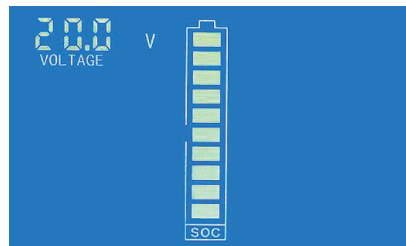
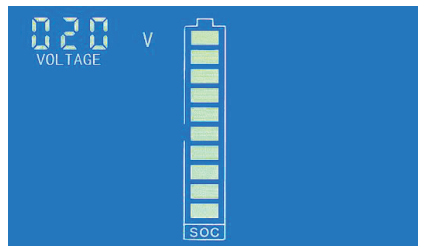

Figure 3: full voltage setting interface (low bit)
Figure 4: full voltage setting interface (high bit)
- Step 2: "SET" character blinks enabling it is the setting status of full / cut off voltage, long press the button until the LCD screen display the interface like fig. 3, then release the button.
- Step 3: The battery symbol display is full. The full voltage setting factory default is 020.0V, the numerical code scrolls flashing from the low bit to the high bit show that the current setting digit, short press to set the digit; please pay attention this, as the full voltage setting value has 4 digit, but the numerical code has only 3 digit, So the setting is divided into two part s: low bit (fig. 3) +high bit (fig. 4). For example, the default full voltage is 020.0V, then the display state is 20.0V to 020V low and high cyclic switching display. If you need to set the full voltage is 199.0V, then please set low bit to 99.0V , when the cycle reaches the high bit , it will display 099V, and only the highest zero bit flicker to prompt it can be set . Setting the high bit to 199V represents the full voltage is 199.0V.